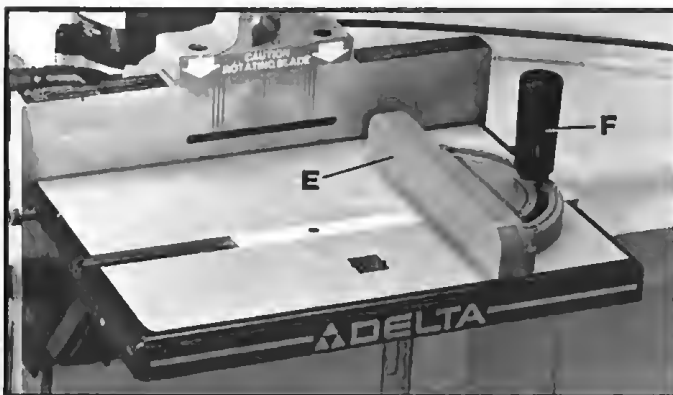
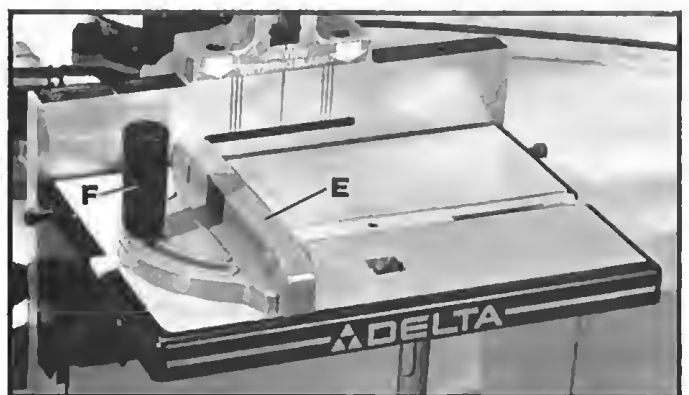

Fig. 13
Fig. 14
2. The adjustable stock stop can be used in the right hand position, as shown in Fig. 13, or in the left hand position, as shown in Fig. 14.
3. To rotate the stock stop body (E) Fig. 13 and 14, for angles, simply loosen lock handle (F), rotate body (E) to the angle of the workpiece. Then tighten handle (F).